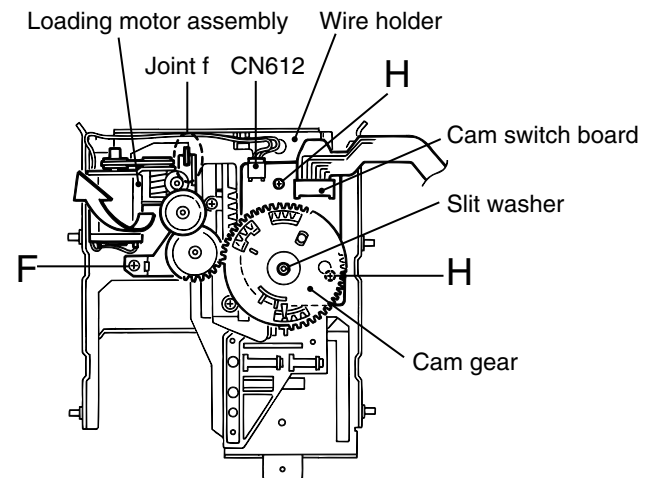

Fig.12
■Removing the loading motor (See Fig.12 and 13)
■Removing the cam gear and the cam switch board (See Fig.12)